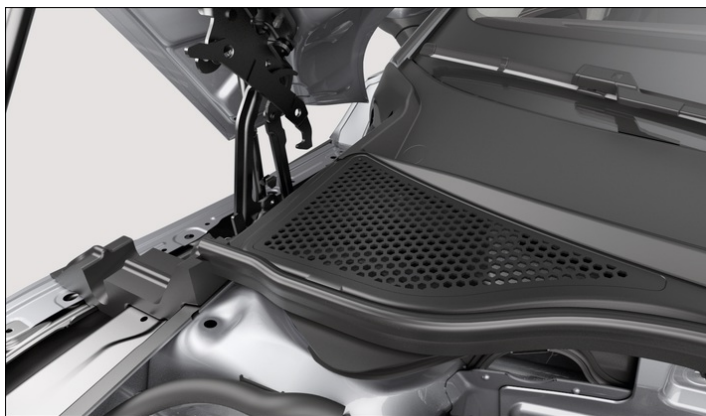

Fig. 1 Between the engine compartment and windshield: plenum chamber (general example).
- Remove leaves or other loose objects with a vacuum or by hand → *fig. 1* , → ⚠.